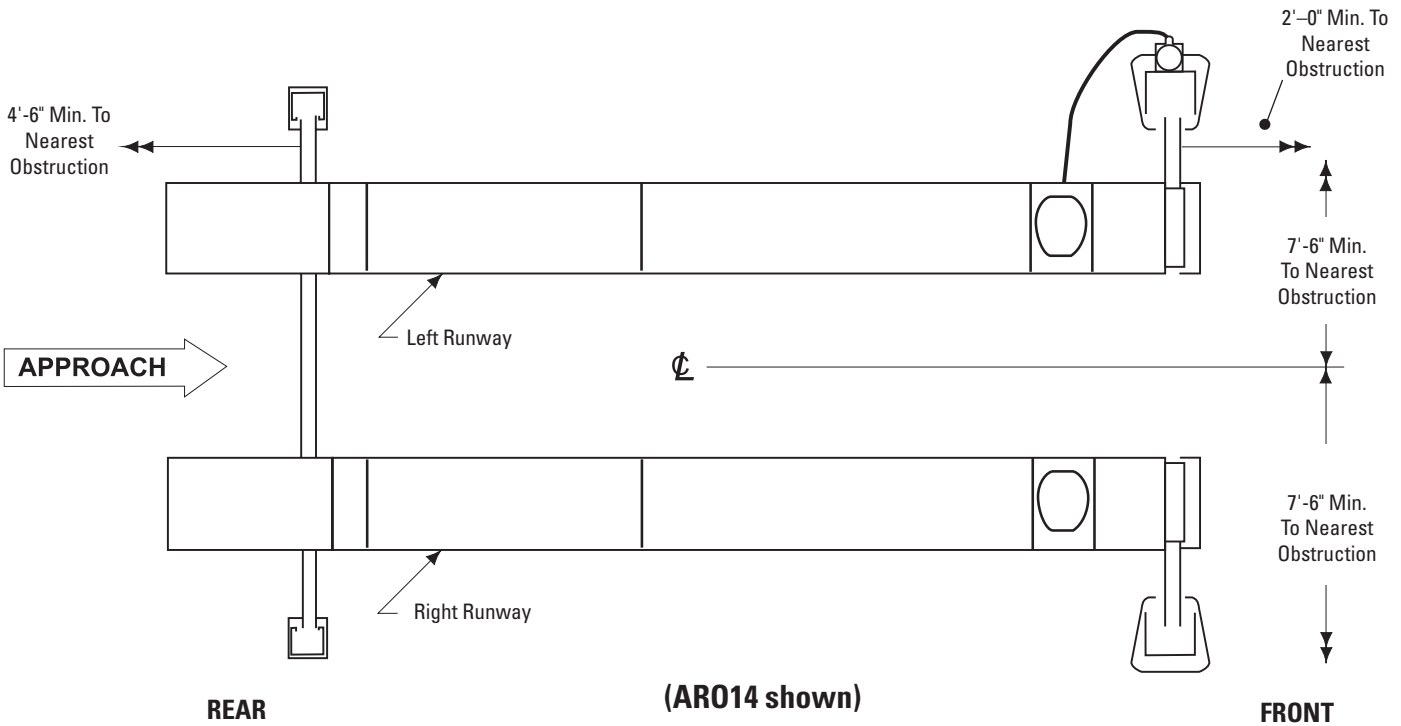

Fig. 1
1. Lift Location: Use architects plan when available to locate lift. Fig. 1 shows dimensions of a typical bay layout. Lift floor area should be level.